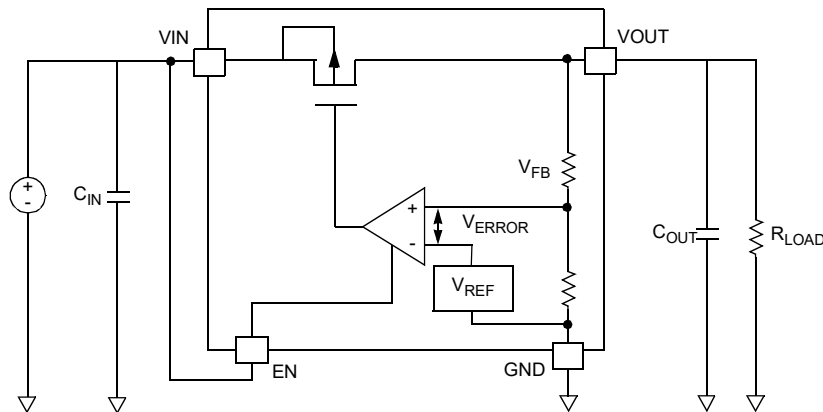

Figure 24. Simple PMOS LDO Regulator Block Diagram
Like the majority of LDOs with a PMOS pass transistor, the RRP58000 DC output voltage ( $V_{OUT}$ ) regulation can be modeled with a voltage reference ( $V_{REF}$ ), PMOS pass-transistor, error amplifier, and feedback (FB) resistors as shown in Figure 24.